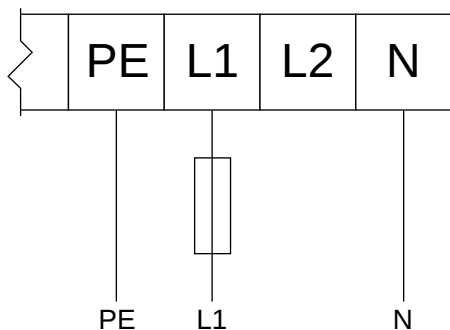

Figure 8 120 Vac 1 Phase Input/240 Vac 3 Phase Output
6. Connect the power supply wires to the power terminals in the VFD box. See Table 3 and Figs. 8–12, as applicable for your system.